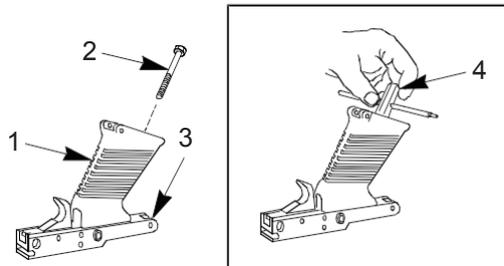

Figure 8. Trigger Mechanism.
9. Position trigger mechanism (Figure 8, Item 3) with trigger facing upward.
10. Insert machine bolt (Figure 8, Item 2) into pistol grip (Figure 8, Item 1) and place on trigger mechanism (Figure 8, Item 3). Using 11mm end of box spanner tool (Figure 8, Item 4), tighten machine bolt (Figure 8, Item 2).